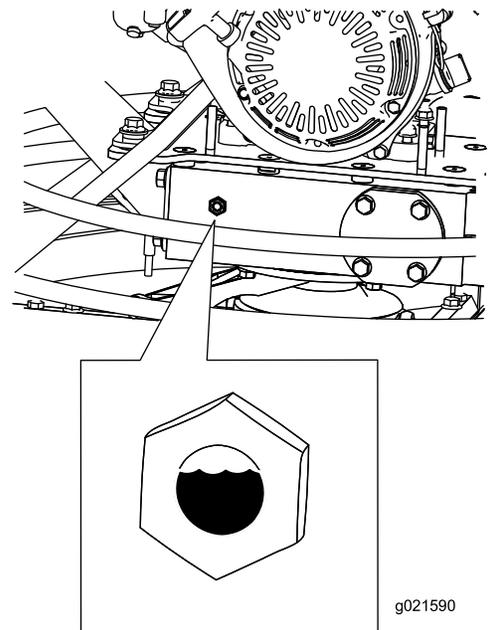

Figure 10
3. Look at the sight glass in the gearcase plug (Figure 10). The oil level should be 3/4 full.